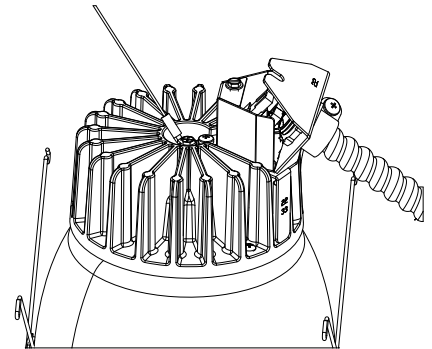

Figure 3
3. Place connectors in housing and insert tabs into slots. See Figure 3